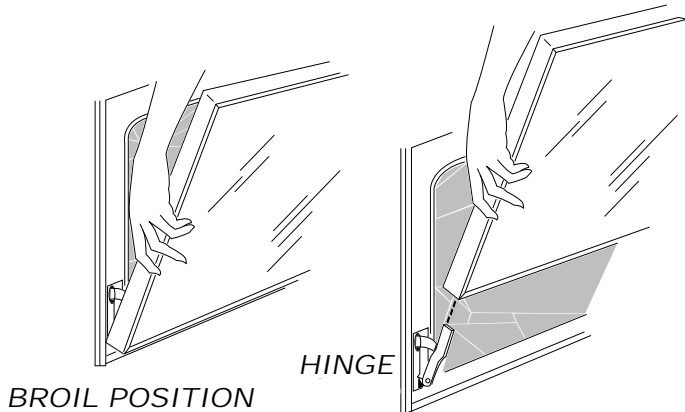

Fig. 4A
- Open the door to the broil position. (See Fig. 4A).